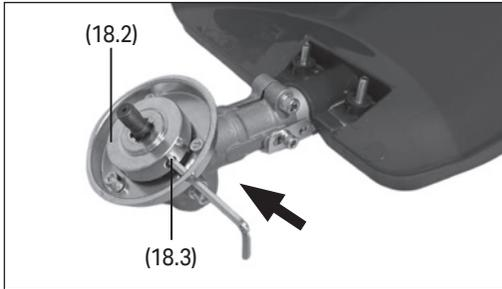

Fig.44
- After use clean the cutting blade (28) thoroughly and remove any debris, sap and moisture.
12.8 Removing the Complete Spool Assembly (Fig.44 – Fig.45)